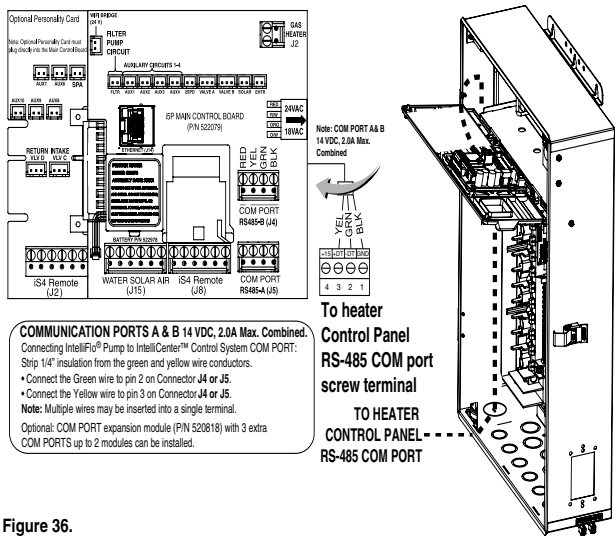

Figure 36.
4. Run the RS-485 cable from the heater's control board RS-485 COM port terminal connector to the Load Center or Power Center. See wiring connection **Figure 36** on next page.